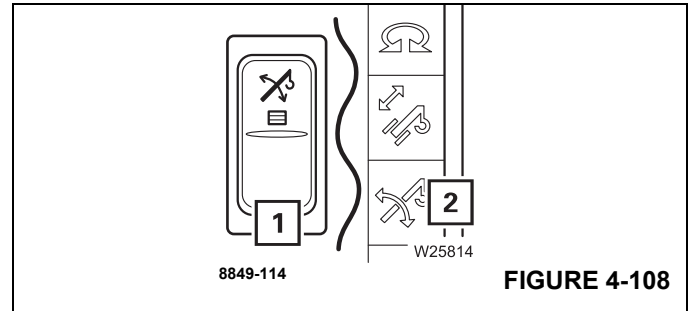

FIGURE 4-108
Press the button (1), (Figure 4-108) once.